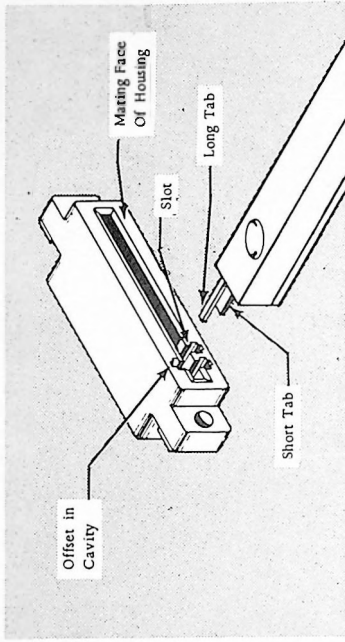

Fig. 3
1. Insert Tabs into Mating Face of Cavity so that Long Tab fits into Offset in Cavity and Short Tab slides into Slot between Cavities. See Figure 3.